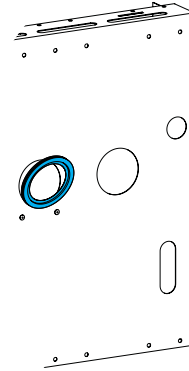

Figure 2
2. Insert the blue intake connector gasket into the inlet air opening in the rear shroud. **See Figure 2.**